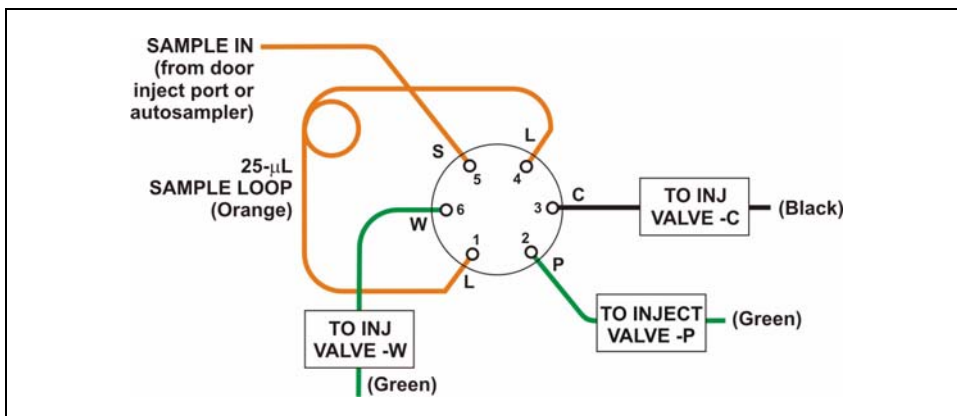

Figure 5-3. Injection Valve Plumbing
5. Reconnect all liquid lines to the injection valve (see Figure 5-3).